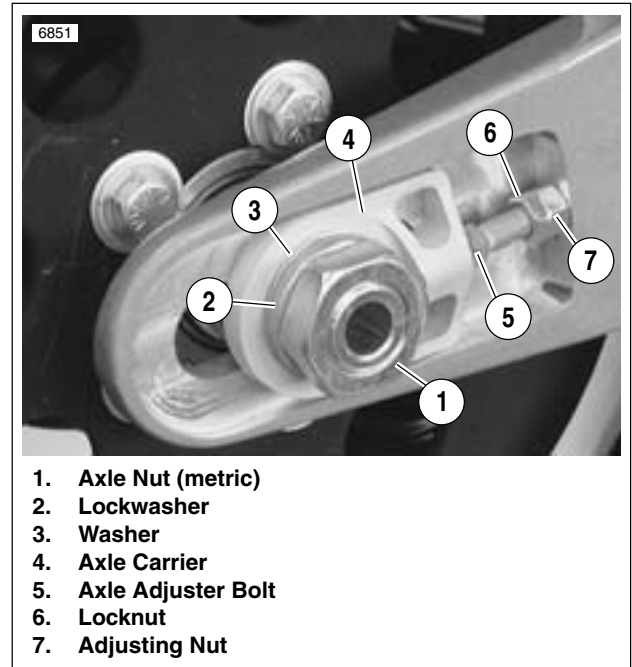

Figure 2-63. Rear Axle, Right Side
7. See Figure 2-63. Remove rear wheel. See 2.6 REAR WHEEL.
- c. See Figure 2-63. Place spacer between wheel hub and right side of swingarm. Slide axle through spacer and swingarm.
- d. Place washer (3) on axle with rounded side facing swingarm. Install lockwasher (2) and axle nut (1) (metric). Do not fully tighten rear axle nut at this time.